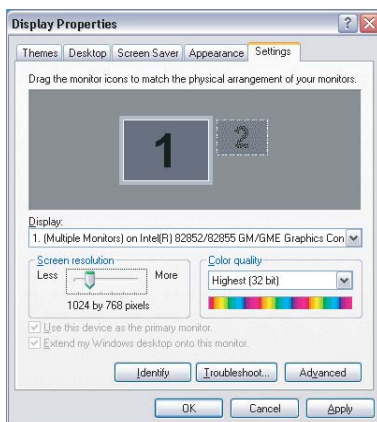

Figure 8-6 Display properties
- (1) Open **Display properties** and select the **Settings** tab.
- (2) Select **Advanced** (Figure 8-6).